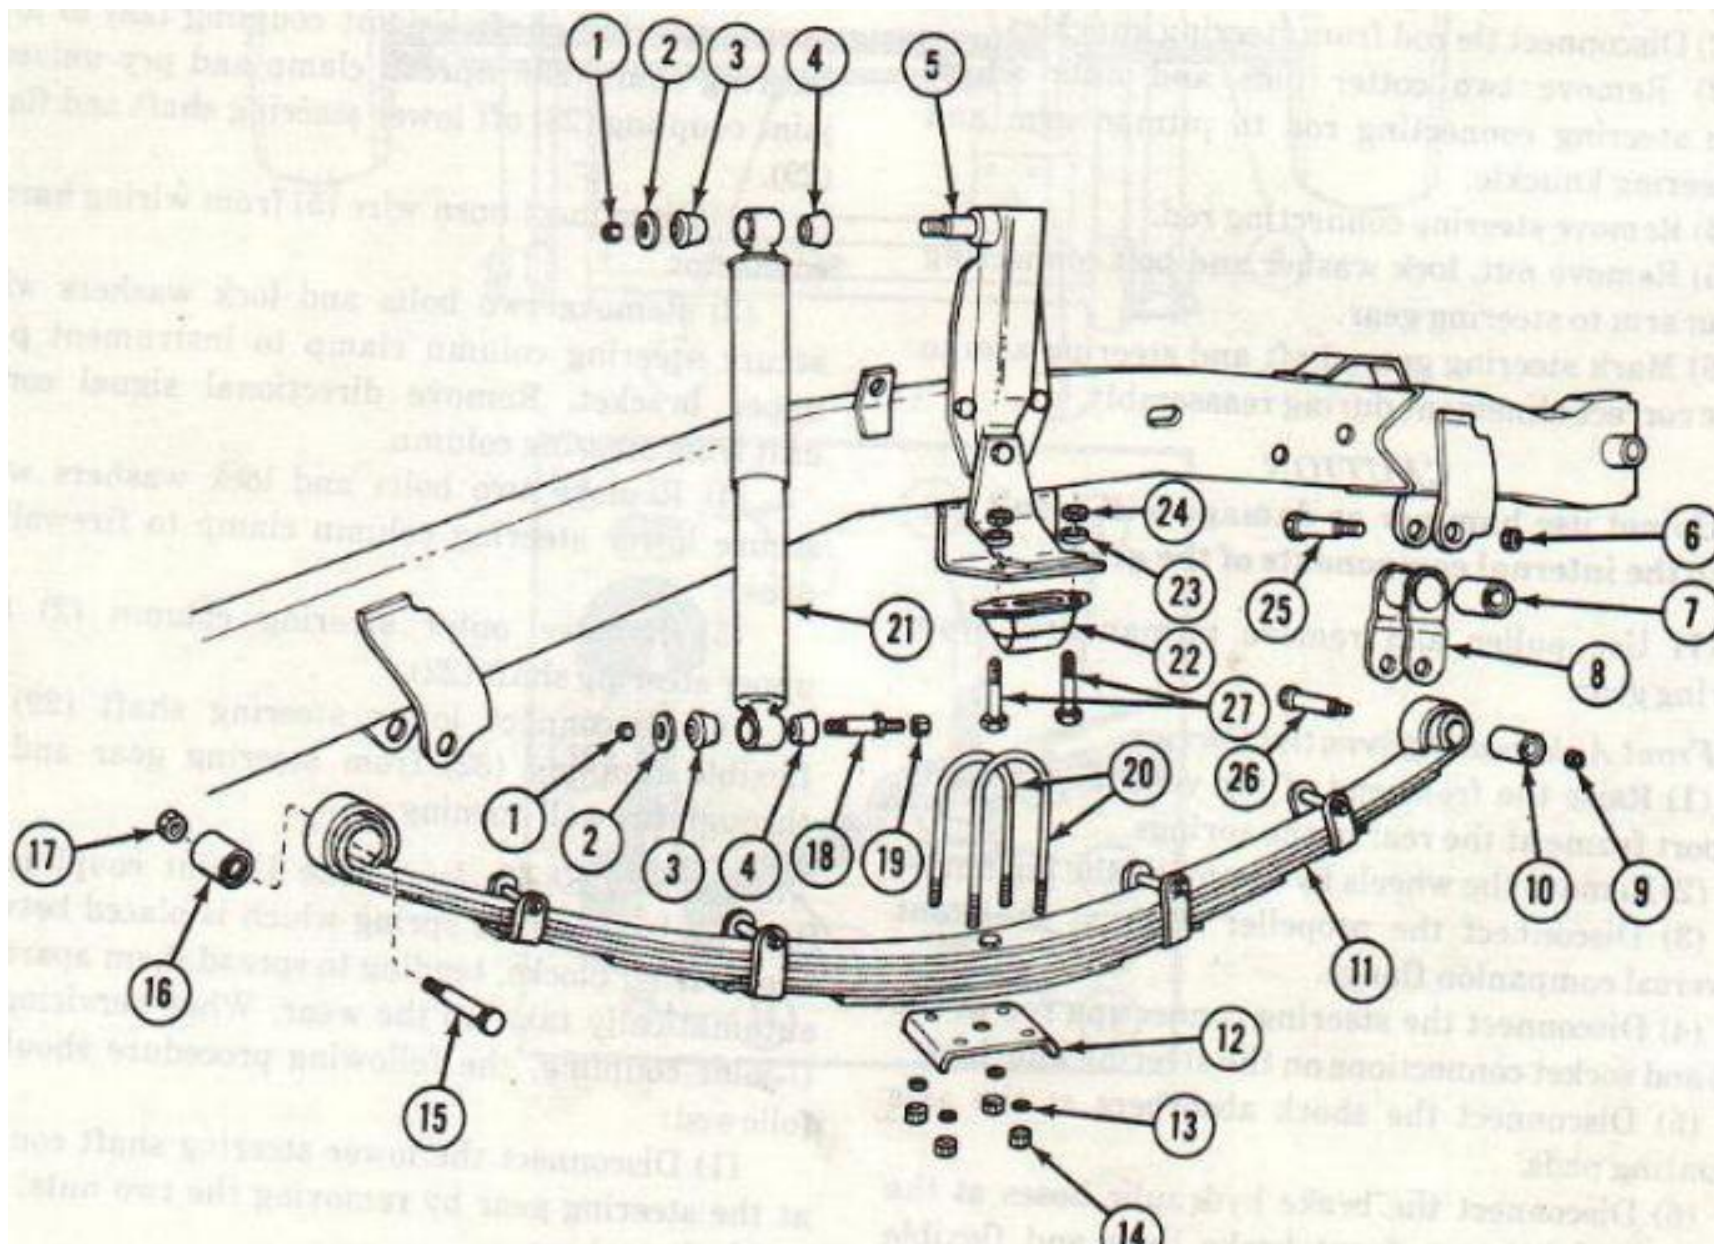
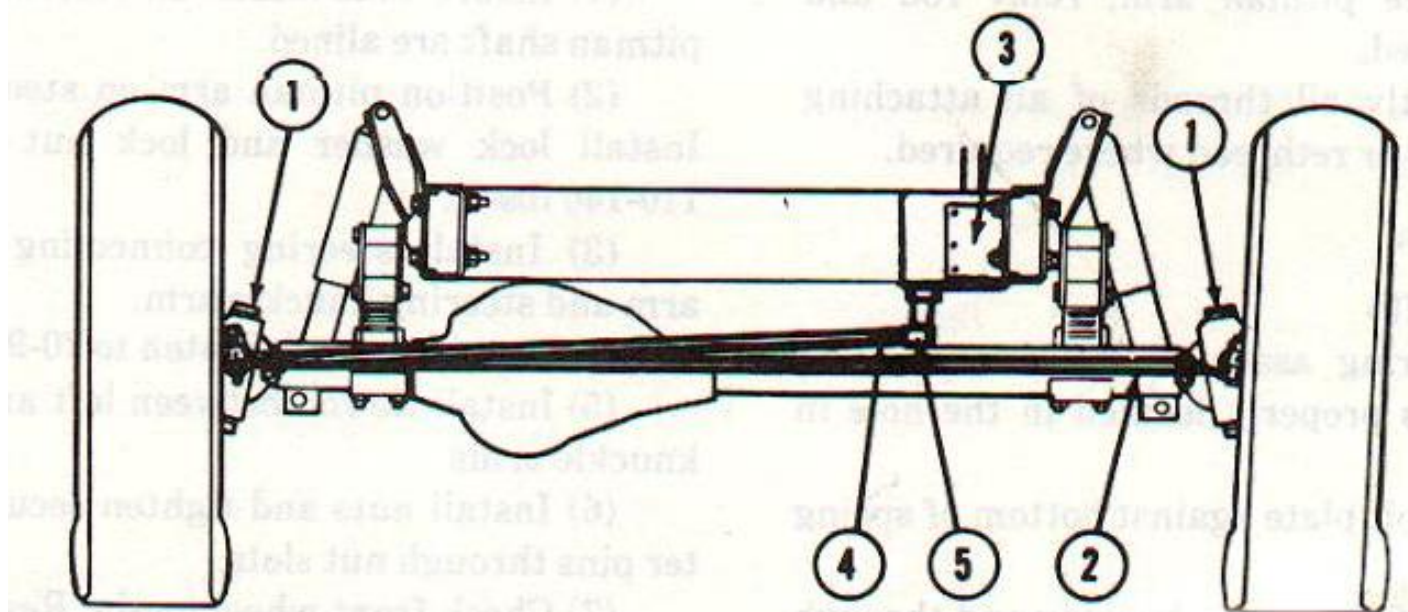

Figure 2-70. Front suspension Components.
FIGURE 2-71. Steering Linkage
a. Shock Absorbers. (Fig 2-70)
- (1) Remove nut and flat washer from shock absorber frame bracket pin.
- (2) Remove nut and flat washer from shock absorber axle housing bracket pins.
b. Shock Absorber Mounting Pins. (Fig 2-70)
- (1) Remove shock absorber as described in (a) above.
- (2) Remove nut, which secures shock absorber mounting pin to axle housing bracket.
- (3) Remove shock absorber mounting pins.
c. Springs. (Fig 2-70)
- (1) Place transmission in gear, set hand brake and place wheel chocks at front and rear of rear wheels.
- (2) Raise front of vehicle and place jack stands under each frame side rail under cab area.
- (3) Support axle with a floor jack so that tension and compression are relieved from spring.
- (4) Remove four U-bolt nuts and lock washers.
- (5) Remove U-bolt spring plate and U-bolts.
(6) Remove nut (6) from spring front hanger bolt (25). Remove bolt from hanger and spring bushing with a drift.
(7) Remove nut (17) from rear shackle bolt (15). Remove bolt from shackle and spring bushing with a drift.
(8) Remove spring from vehicle.
(9) Remove bolts (27), nuts (24), lock washers (23) and remove spring bumper (22) from frame.
d. Spring Shackle. (Fig. 2-70) The front spring shackles can be removed without removing the springs by the following procedure:
(1) Place jack under frame side rail in order to relieve the load on spring.
(2) Remove the shackle bolt by removing locknut.
(3) Remove the locknut and flat washer from the spring hanger.
(4) Swing the spring shackle up so it is clear of the spring. Pull the spring shackle off the spring hanger.
e. Steering Linkage. (Fig 2-71)
(1) Remove two cotter pins and nuts connecting tie rod to left and right steering knuckle arms.
(2) Disconnect tie rod from steering knuckles.
(3) Remove two cotter pins and nuts which secure steering connecting rod to pitman arm and left steering knuckle.
(4) Remove steering connecting rod.
(5) Remove nut, lock washer and bolt connecting pitman arm to steering gear.
(6) Mark steering gear shaft and steering arm to insure correct alignment during reassembly.
a. Springs. (Fig 2-70)